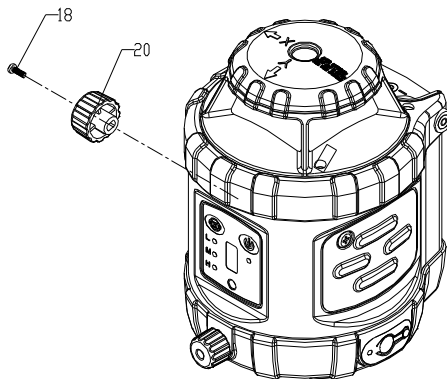

Figure 2
2. Remove compensator locking knob by loosening crosshead plate screw M2.5× 8 (18#) using a Phillips screwdriver. Reference Figure 2. To remove locking knob (20#), pull in an outward direction.